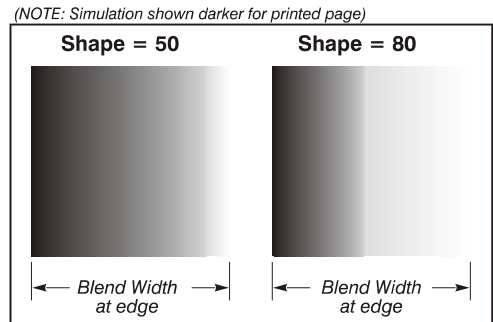

Figure 3.35. “Shape” Examples
- **Blend Shape** determines the rate of roll-off across the blend width, i.e. how quickly the white levels across the blend change from light and dark. Increasing the *Blend Shape* setting accelerates the rate of change at both extremes so that *less* of the region appears mid-gray (see **Figure 3.35**). Decreasing the *Blend Shape* setting slows the rate of change so that *more* of the region appears mid-gray. For most applications, this subtle control is best left close to 50.